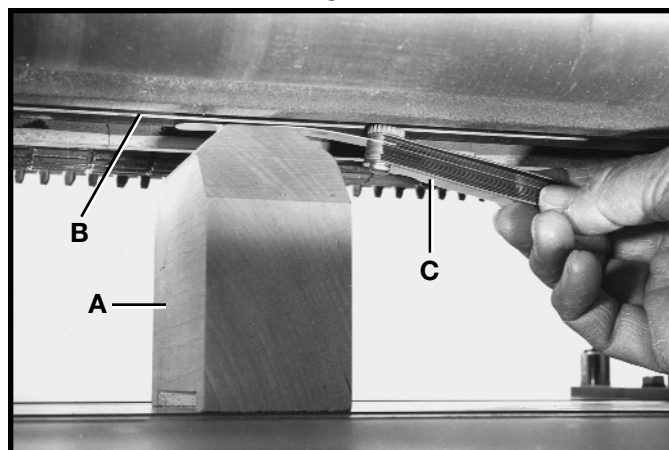

Fig. 46
3. Place gage block (A) Fig. 46, on the table, directly under the cutterhead (B). Using a .040" feeler gage (C) placed on top of the gage block (A), raise the table until the cutterhead knife just touches feeler gage (A) when the knife is at its lowest point. **NOTE:** Do not move the table any further until the adjustment is complete.